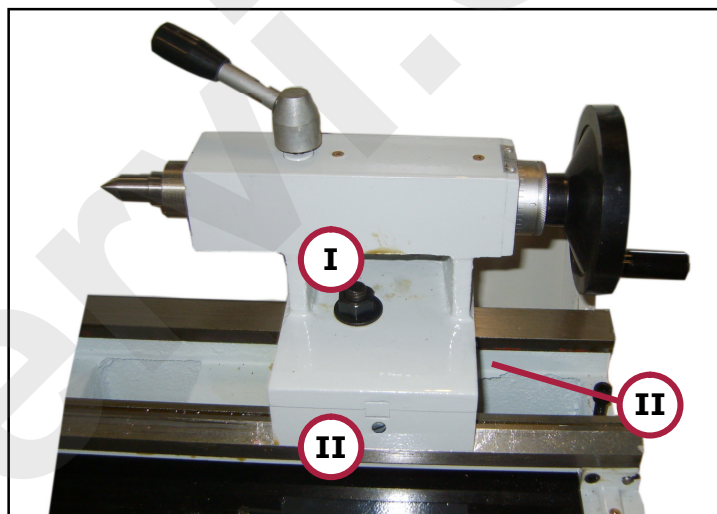

Figure 22 – Tailstock alignment.
1. Loosen the locking screw (ref. I in Figure 22);
2. Turn the adjustment screw (ref. II in Figure 22) to align the reference marks on the rear plate (ref. III in Figure 22);